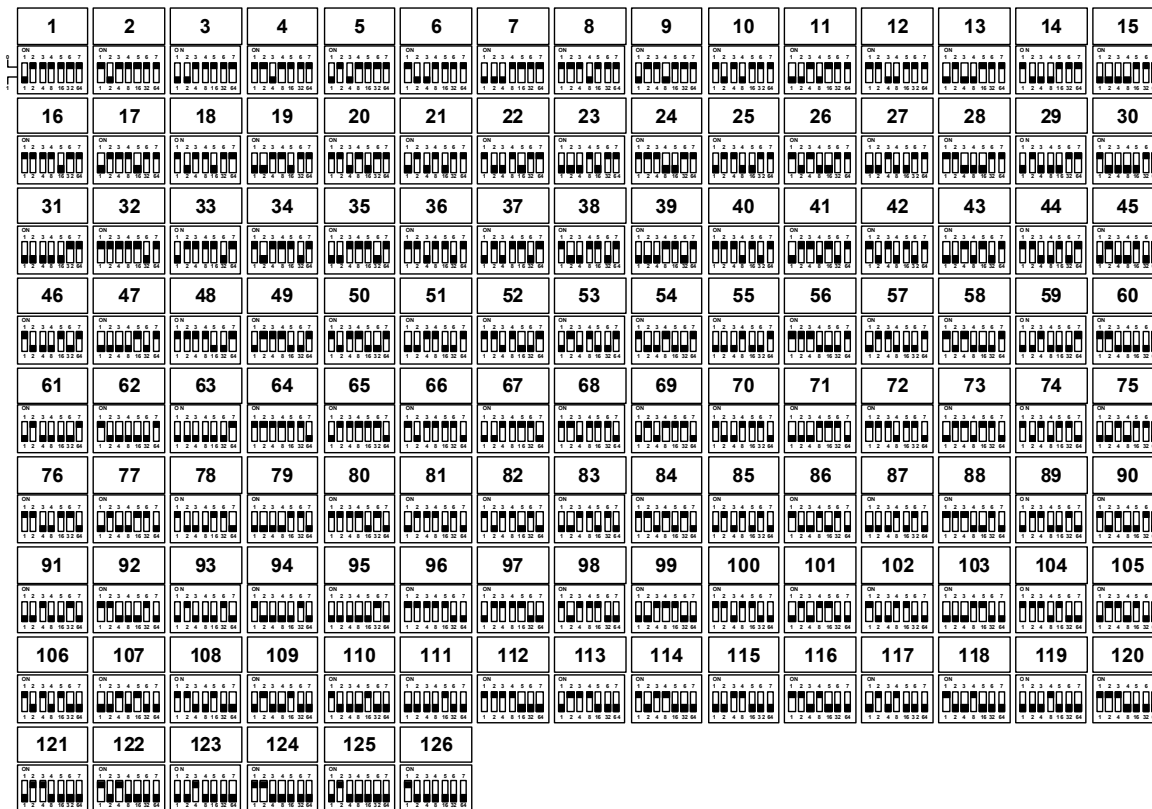

Figure 7 - DIP Switch Programming
Each Intelligent Module; Inputs, Outputs and Pull Stations are individually addressed using a DIP switch. Opposite is an example of a programming DIP switch for address 42, below is a chart giving the settings for each address. In DIP switch packages containing eight (8) switches, the eighth switch is for classification of wiring type [Class A or Class B] (see figure 7).